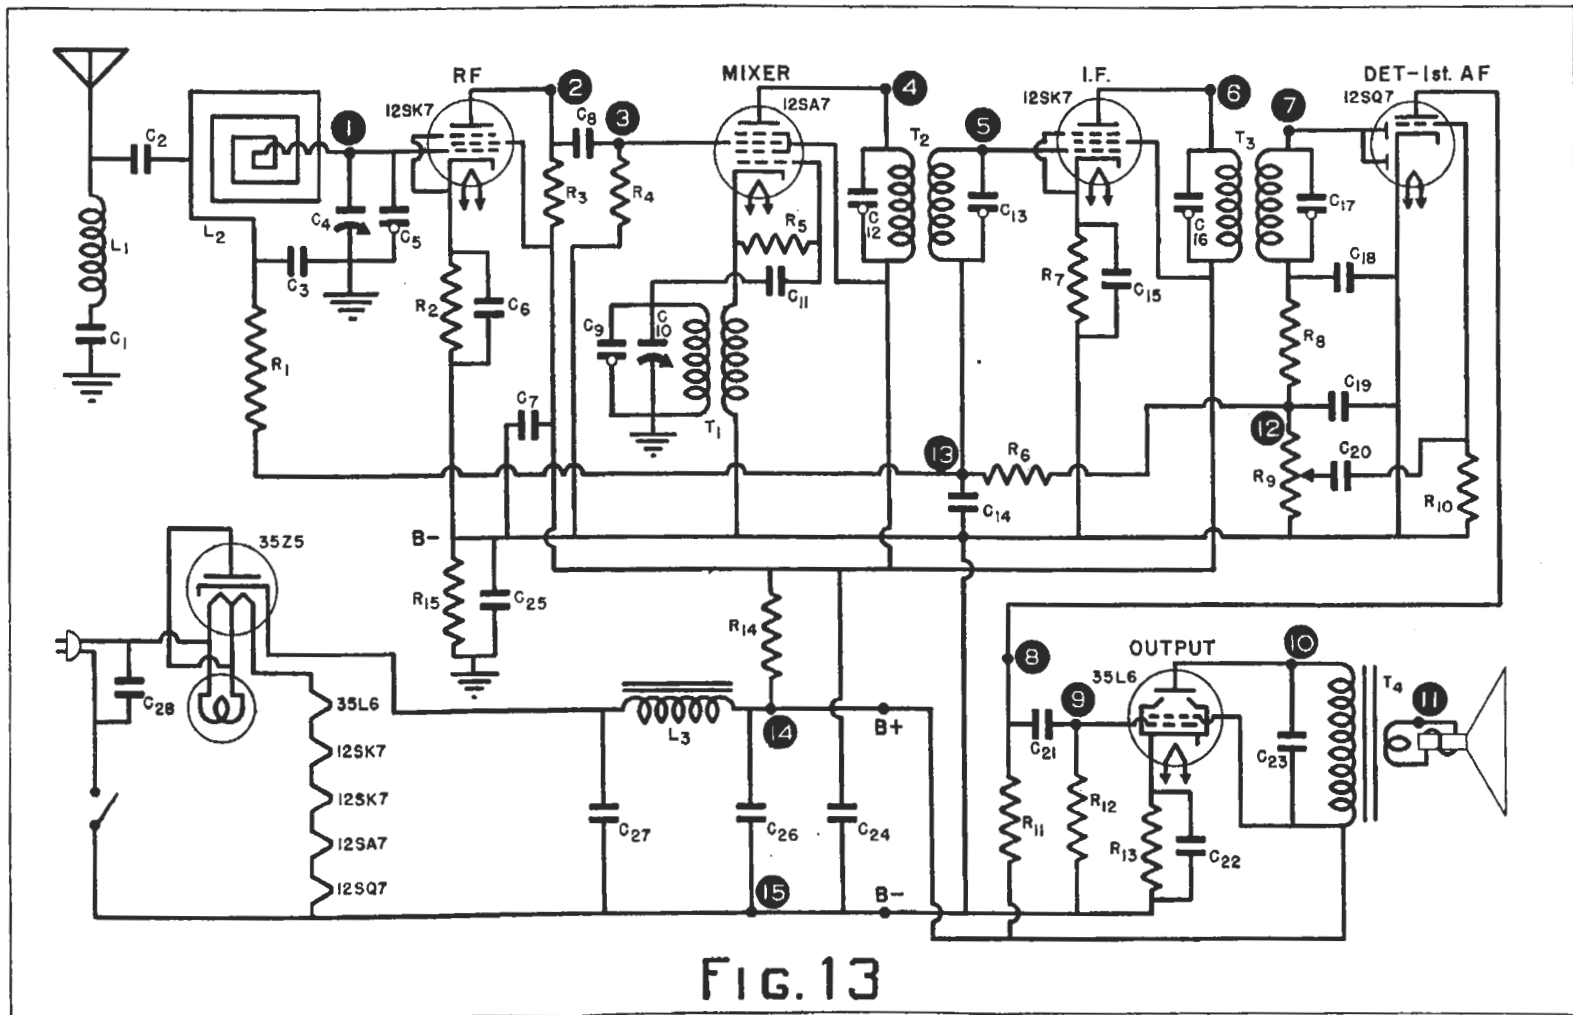

FIG. 13
Signal Tracing. Should you have a signal tracer, however, the problem is vastly simplified. The average signal tracer contains a section, known as an r.f.-i.f. channel, which is capable of tuning over the i.f. and the broadcast band. It may also contain a less sensitive section, called an oscillator channel, which will cover the oscillator and broadcast range of the receiver, also an a.f. channel, and perhaps a d.c. vacuum tube voltmeter. A typical instrument of this type is shown in Fig. 12. The advantage of this type of signal tracer is the fact that the signal progress can be observed at a number of points simultaneously. Let us see how you can use an outfit of this sort to check the typical a.c.-d.c. receiver shown in Fig. 13.
► You must make a ground return connection to the receiver. In standard a.c. sets, the ground lead of your signal tracer can be clipped to the set chassis. However, in a.c.-d.c. receivers (like that in Fig. 13) where there is no electrical connection to the chassis, you must find the B-circuit, particularly to measure a.v.c. and power supply voltages. Point 15, or any other point on the B— bus or lead, may be used for this connection. Many servicemen use the set side of the ON-OFF switch as a convenient connecting point.
8. Suppose an audio signal tracer shows an intermittent change in volume when at the junction of C_{20} and R_{10} in Fig. 13, but a steady signal exists at point 12. Which two parts are the most logical suspects?
9. Suppose the loudspeaker volume varies, but a signal tracer connected to point 9 of Fig. 13 shows a normal steady signal. Where is the trouble?
10. Where in Fig. 13 would you connect a high ohms-per-volt meter to determine whether the intermittent trouble is in the a.f. section or in the r.f. section?